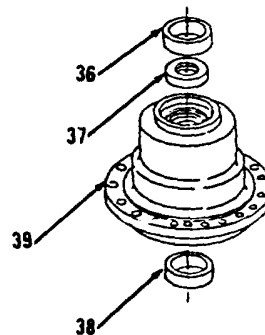

Figure 5-139.
22. Using suitable puller, remove and discard cup (36) and seal (37) from housing (39, Figure 5-139).
23. Remove and discard cup (38).